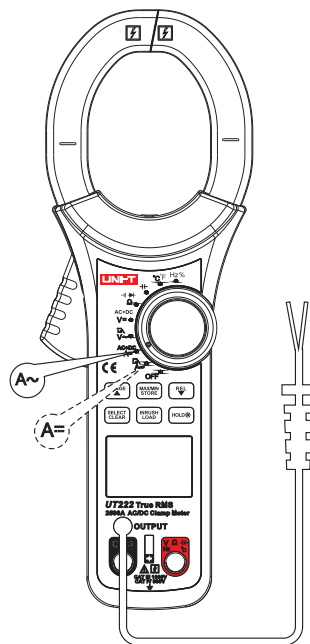

Figure 14
11. Current signal output function (See Figure 14)